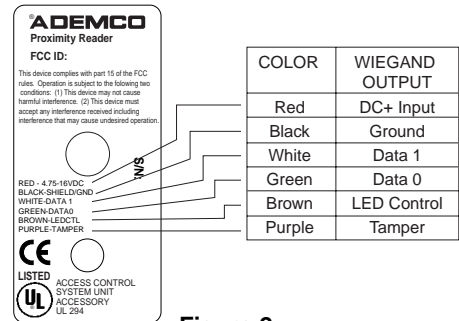

Figure 2
3. Splice the Reader pigtail wires to the corresponding Host wires and cover each connection (see Figure 2).
Figure 2 below shows how you should wire the Reader to the Host.